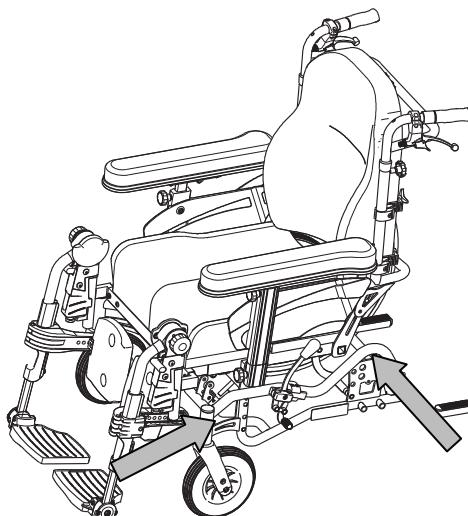

figure 3
7. Mount the front securing straps according to the instructions of the strap-system manufacturer at the indicated place. (figure 3)
10. Mount the back securing straps according to the instructions of the strap-system manufacturer at the indicated place. (figure 3)